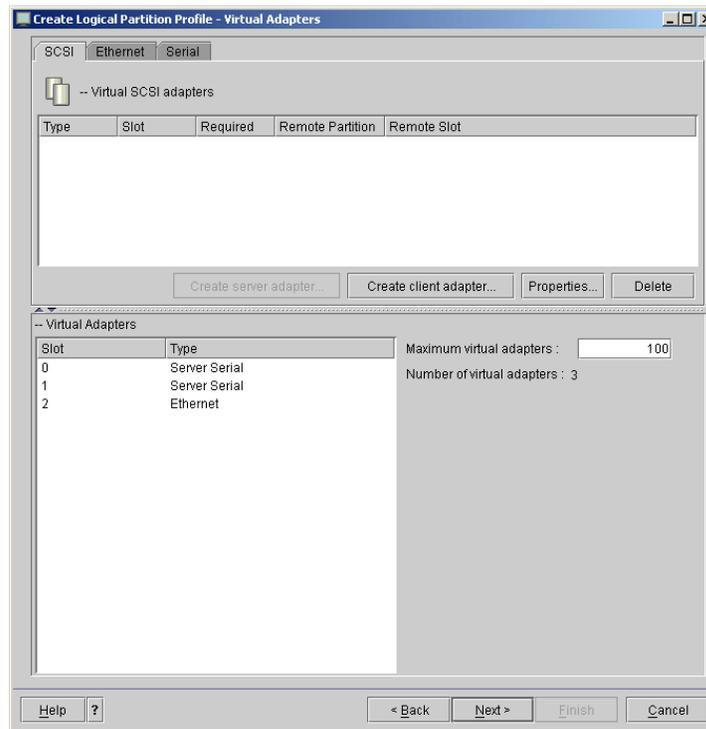

Figure 3-31 Create client virtual SCSI adapter
1. Select the **SCSI** tab. You will see a window similar to Figure 3-31.